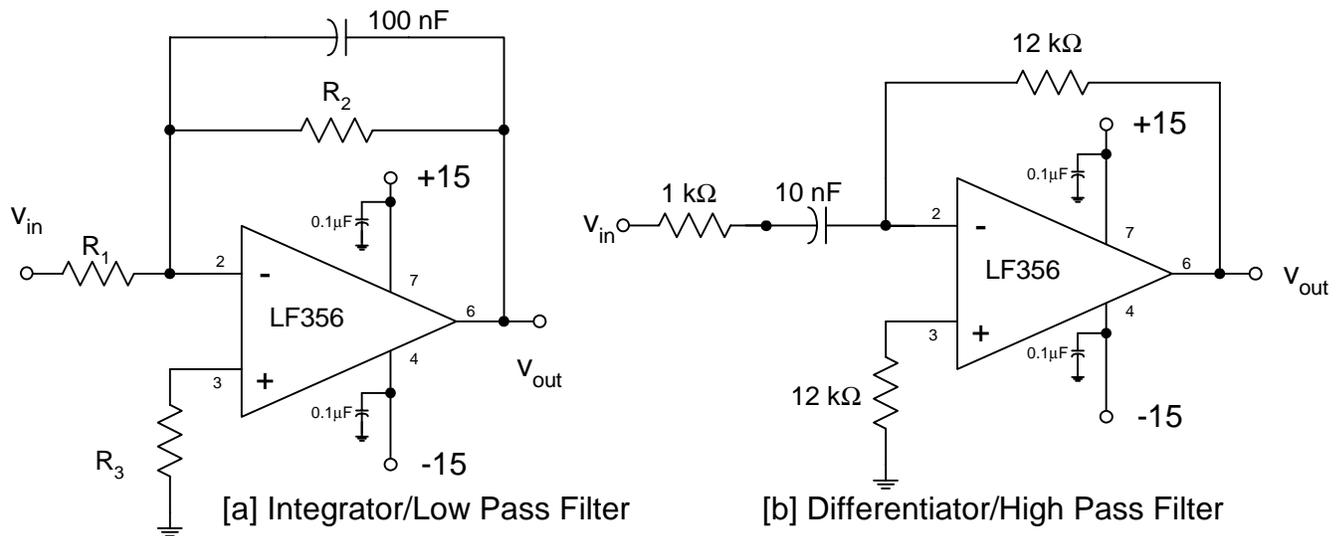

Figure 3: Circuits for experiment 4.
1. Figure 3[a] shows the configuration of a low-pass filter/integrator. In the frequency domain, this circuit corresponds to a low-pass filter. For this experiment, you wish to design this circuit to be an integrator at a frequency of 10,000 Hz. Because this will not be a perfect integrator, you will want to make sure that the phase-shift between the output and the input will at least be -85° [an ideal integrator would have a phase-shift of -90°]. Design the circuit to have a low-frequency gain of -10 . Show your calculations. Measure the magnitude and phase angle of the circuit transfer function at 10,000 Hz to verify your calculations.
2. Figure 3[b] shows the circuit configuration for a differentiator. In the frequency domain, this circuit corresponds to a high-pass filter.